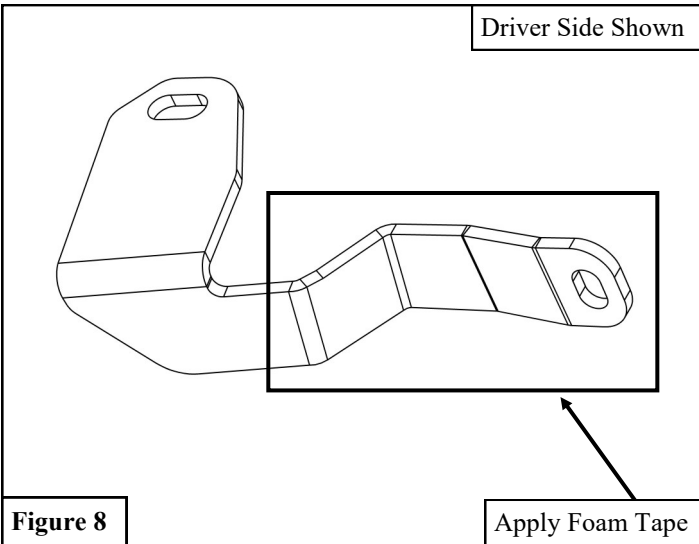

Figure 8
12. Trim and apply foam tape to the upper support straps (items 23-24). See **Figure 8**.